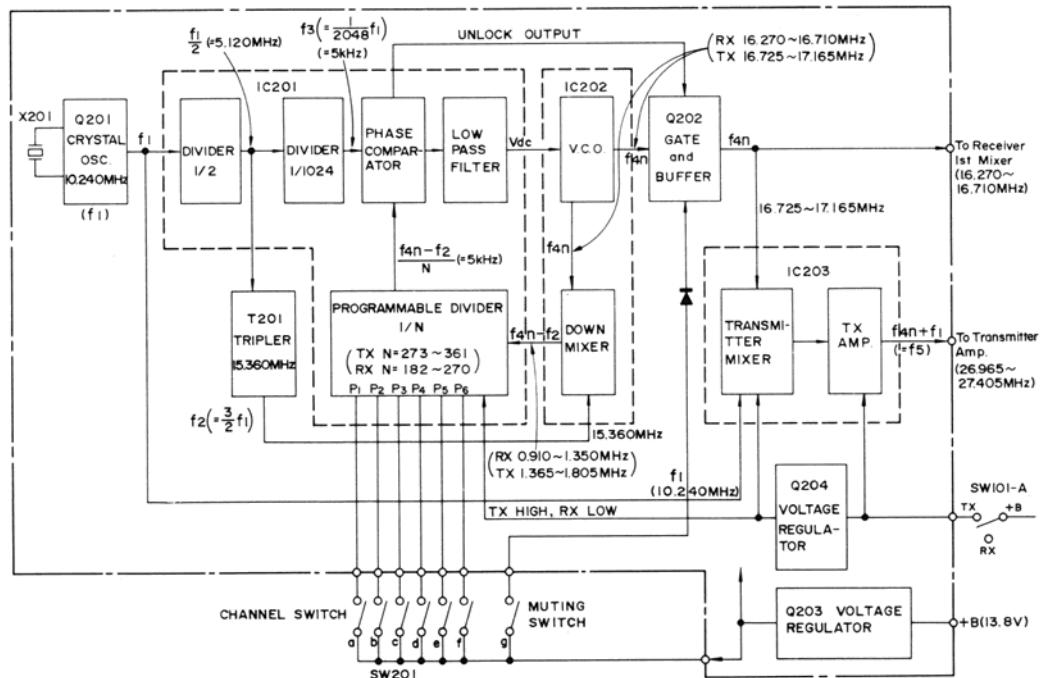

Figure 3 P.L.L. CIRCUIT FREQUENCY SYNTHESIZER
DESCRIPTION OF PHASE-LOCKED-LOOP (P.L.L.) CIRCUIT (Refer to Figure 3)
The frequencies for both transmitter and receiver are synthesized by one crystal controlled oscillator and the Phase-Locked-Loop (or P.L.L.) consisting of eight basic building blocks: the divider (1/2) IC201, the divider (1/1024) IC201, the phase detector (phase comparator) IC201, the low-pass filter IC201, the voltage controlled oscillator (or V.C.O.) IC202, the down mixer IC202, the programmable divider IC201 and the tripler T201 as shown in Figure 3.
3) Frequency Determining (Refer to Figure 3 and Table 1)
- 5- The programmable divider (a portion of IC201) divides the frequency f_{4n-f_2} by the frequency divider number N (Receiver 182 to 270, transmitter 273 to 361), which is programmable by the switch position of the channel selector connected to the terminal pins ⑪ to ⑯ of IC201. The assigned number is shown in Table 1. The output frequency $(f_{4n-f_2})/N$ (near 5kHz) of the programmable divider is applied to another input of the phase comparator.